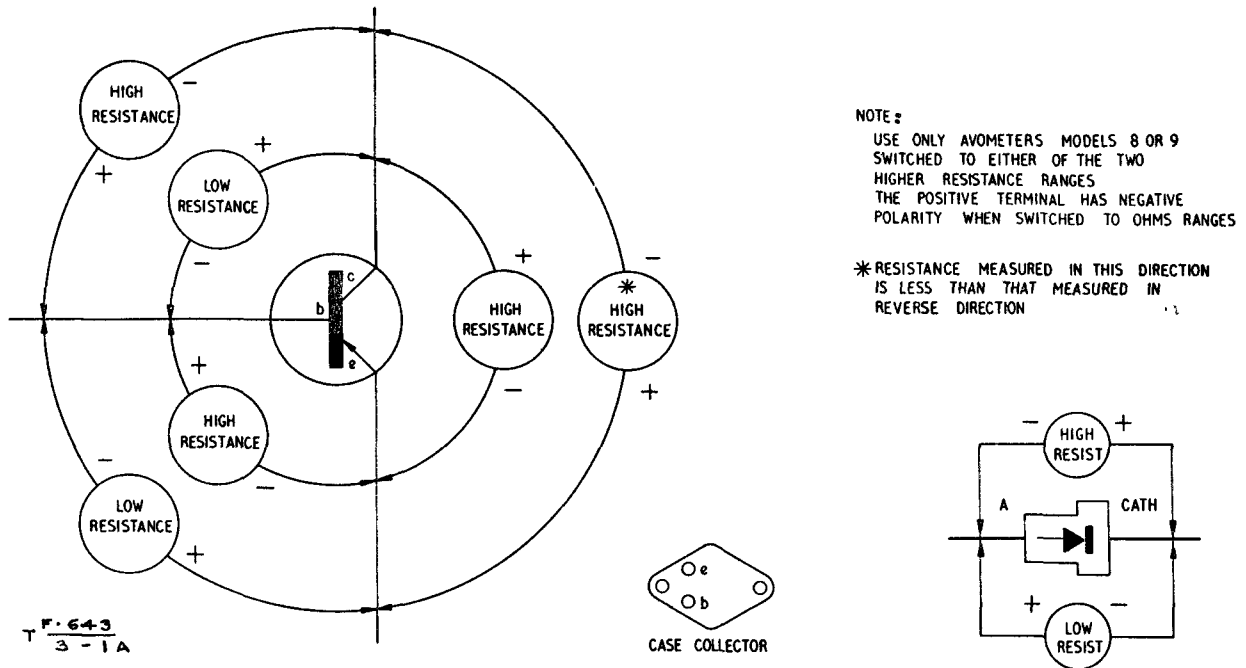

Fig 1A - Transistors - emergency tests
Note: These Pages 5 and 6, Issue 3, supersede Pages 5 and 6, Issue 2, dated 27 Feb 47. Para 19 to 26 contain new information, Fig 1A is a new figure.
24. Transistors should be tested using the transistor test set CT446. If this is not available the emergency tests shown in Fig 1A will determine if a transistor or rectifier diode is faulty and requires replacement.